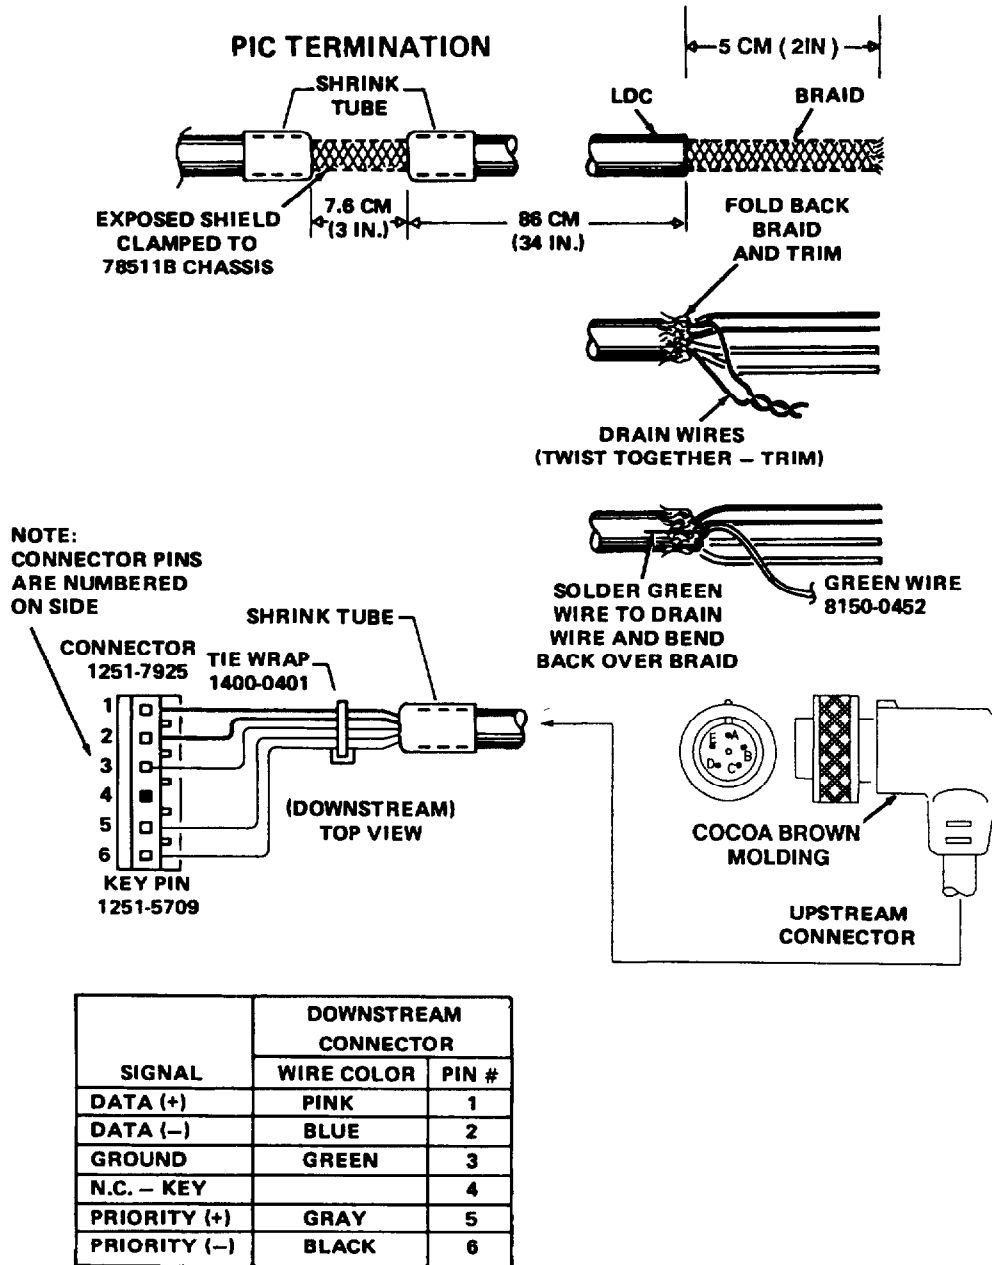

Figure 1-11. Termination Procedures at PIC
- f. Refer to Figure 1-11 and, without cutting into the shield, remove 3 inches (7.6 cm) of plastic jacketing to expose the shield braid where marked. Slide on and heat shrink two 2-inch (5 cm) pieces of shrink tubing over the cut ends of the cable jacket, over the edge of the exposed braid.
- d. Twist together the two drain wires and trim. Solder a green jumper wire (8150-0452) to the twisted drain wires close to the cuff of shield wire mesh (Figure 1-11).
- h. Install key 1251-5709 into contact hole 4 of the connector as shown in Figure 1-11.